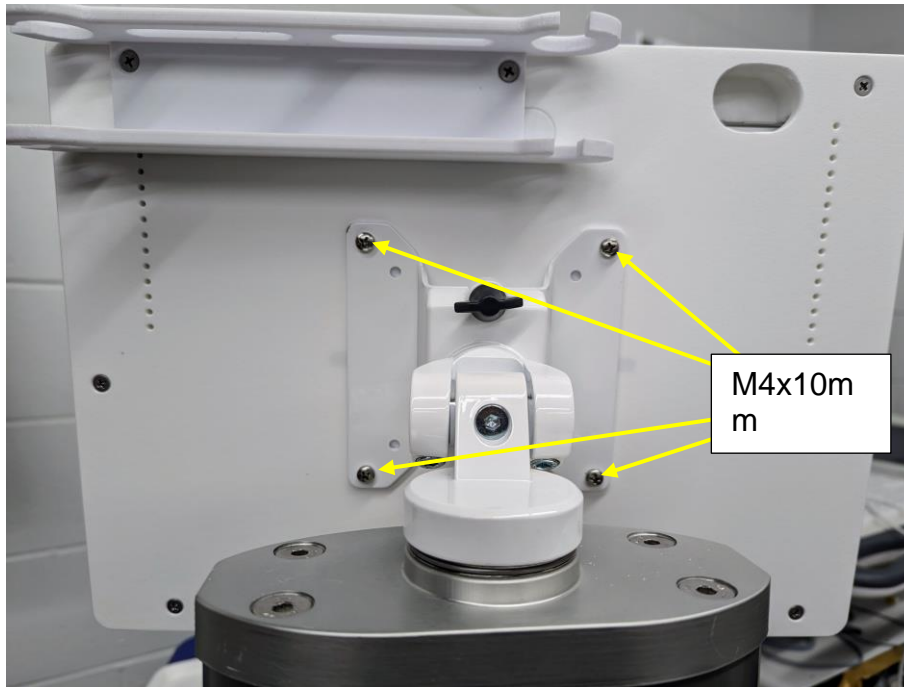

Figure 27
Mount the computer to the display mounting using the (4) M4 screws provided as shown in **Figure 27**.